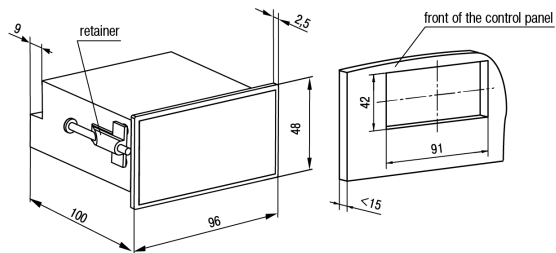

Figure 4.4 – Dimensions of housing Щ2
1. Prepare a place for mounting on the control panel (see *Figure 4.4*).